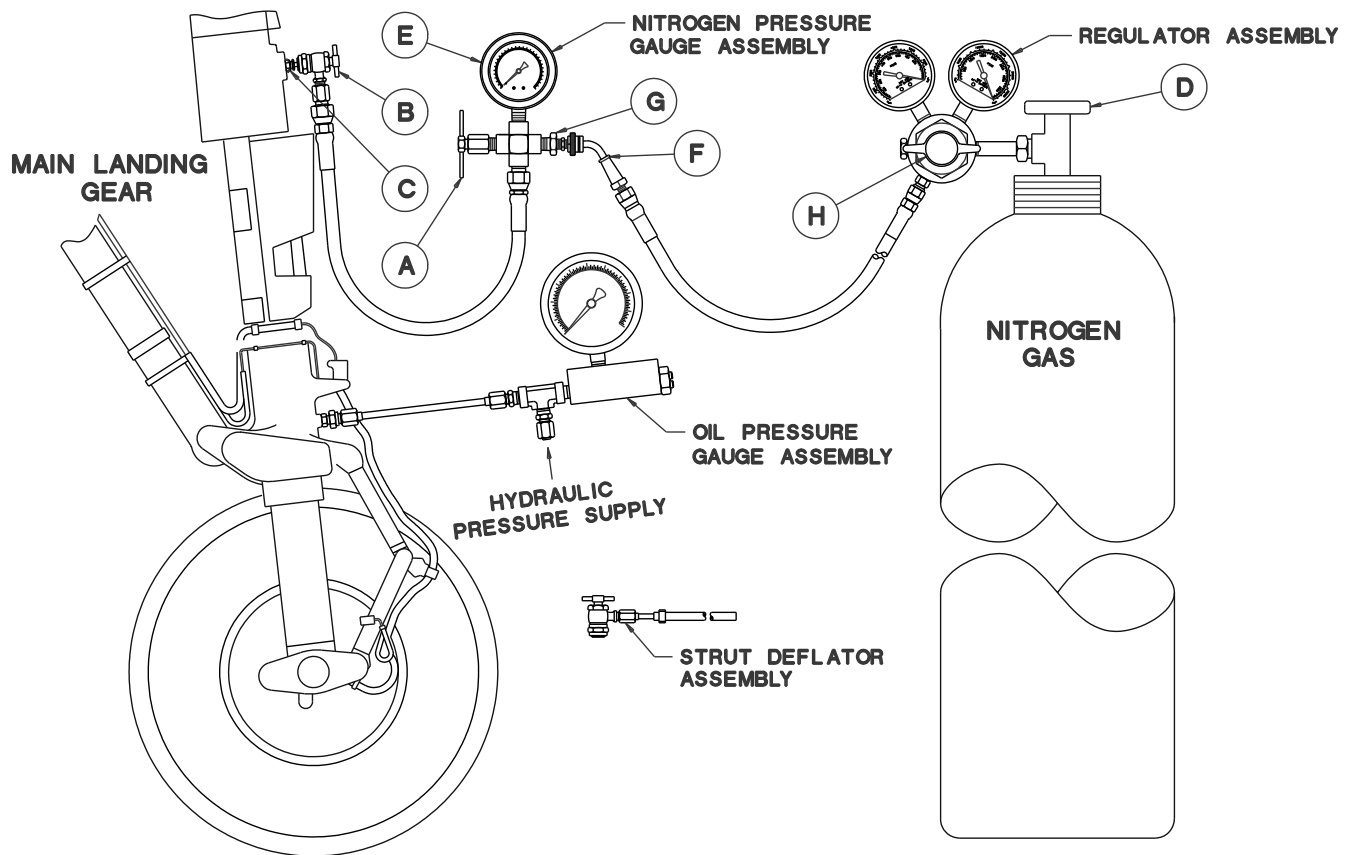

FIGURE 1
1. Reference **Figure 1** during the following steps.
2. Ensure (D) Nitrogen Supply Valve is closed (OFF).
3. Connect (H) Pressure Regulator to Nitrogen supply (not included) if not already connected.
4. Decrease (H) Pressure Regulator to the minimum pressure setting; the regulator adjustment knob is a rotating type. Clockwise rotation of the knob increases pressure and counter-clockwise rotation decreases pressure.
5. Turn valve handle clockwise to close (A) Air Bleeder Valve.
6. Connect (F) Hose Coupling to (G) Pressure Valve.
7. Ensure (C) Nitrogen Charging Valve is in closed position. (Refer to Aircraft Maintenance Manual)
8. Connect (B) Hose Coupling to (C) Nitrogen Charging Valve.
9. Open (C) Nitrogen Charging Valve. (Refer to Aircraft Maintenance Manual)
10. Turn handle clockwise on (B) Hose Coupling to depress valve core in (C) Nitrogen Charging Valve.
11. Open (D) Nitrogen Supply Valve.
1. Reference Figure 1.
2. Close (C) Nitrogen Charging Valve. (Refer to Aircraft Maintenance Manual)
3. Turn handle counter-clockwise on (B) Hose Coupling to release valve core in (C) Nitrogen Charging Valve.
4. Close (D) Nitrogen Supply Valve (OFF).
5. Bleed off any excess Nitrogen in gauges and lines by turning valve handle counter-clockwise to open (A) Air Breeder Valve.